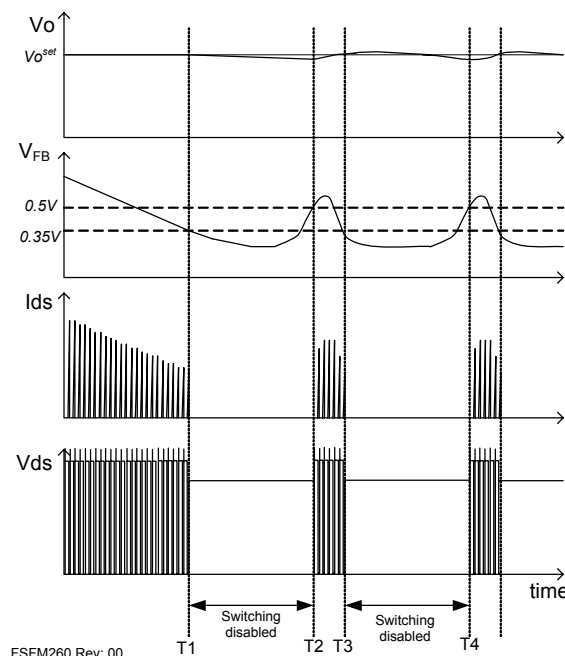

Figure 22. Waveforms of Burst Operation
5. Burst Operation: To minimize power dissipation in standby mode, the FSFM260/261/300 enters burst mode operation. As the load decreases, the feedback voltage decreases. As shown in Figure 22, the device automatically enters burst mode when the feedback voltage drops below V_{BURL} (350mV). At this point, switching stops and the output voltages start to drop at a rate dependent on standby current load. This causes the feedback voltage to rise. Once it passes V_{BURH} (500mV) switching resumes. The feedback voltage then falls and the process repeats. Burst mode operation alternately enables and disables switching of the power SenseFET, thereby reducing switching loss in standby mode.